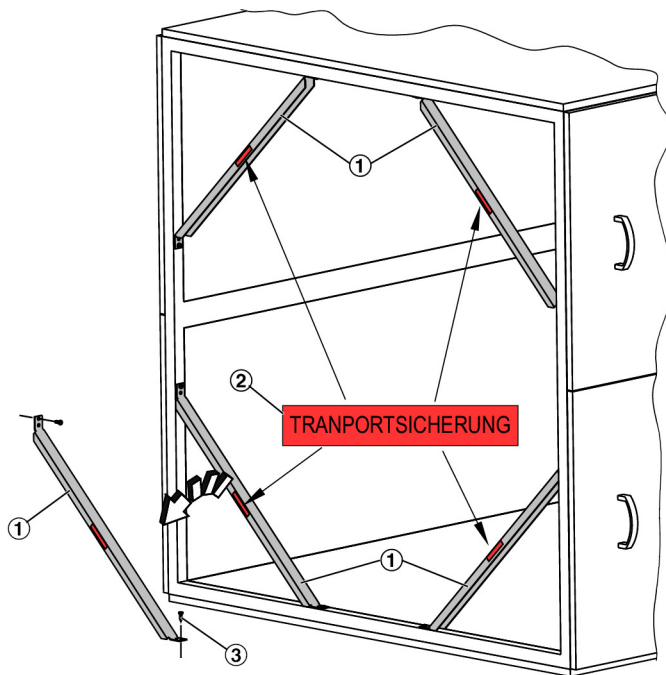

Fig. 10: Cross bars
1. ▶ Remove the cross bars ( Fig. 10 /1) that are marked with a red sticker ( Fig. 10 /2).
2. ▶ Then close the drilled holes in the frame with screws ( Fig. 10 /3).